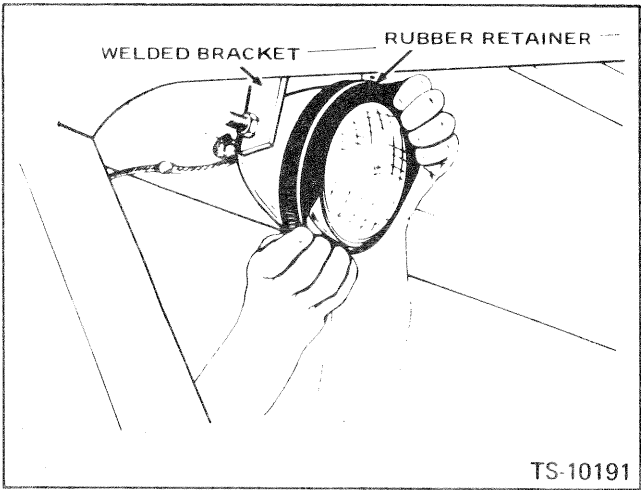

Fig. 14-1 Lamp Replacement
If it is necessary to replace the floodlamps, depress the lamp and spread the lip of the rubber retainer outward, forcing the lamp out as shown in Fig. 14-1. Disconnect the terminals. Reconnect the terminal on the new lamp and reinstall the retainer.
- a. Attach one end of one jumper cable to the negative terminal of the booster battery (identified by black colour "-", "N", or "NEG" on the battery case, post, or clamp) as shown in Fig. 14-1. Attach the other end of the same cable to the negative terminal of the discharged battery.